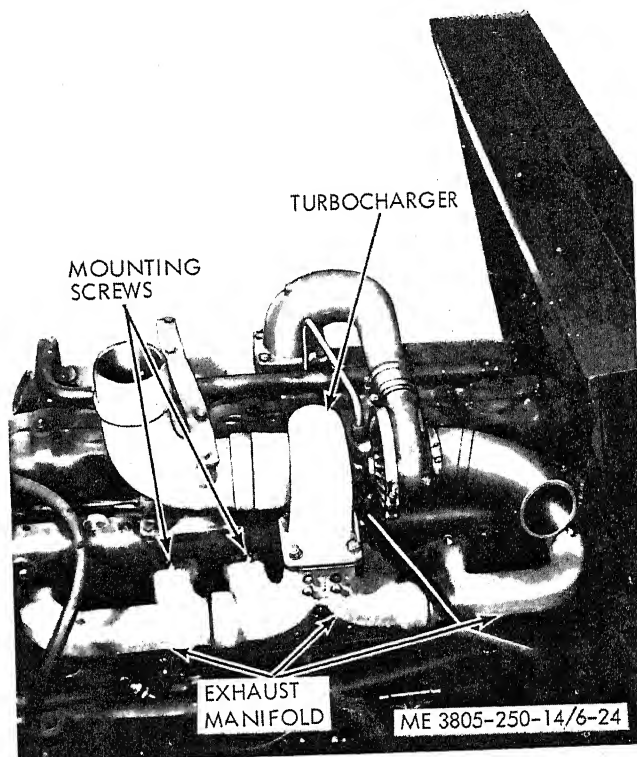

Figure 6-24. Exhaust manifold, removal and installation.
(5) Position the exhaust elbow and new gasket on the turbocharger and secure with four screws.
(6) Install the hood (para 4-51) and exhaust pipe (para 4-22).
(7) Clamp the exhaust pipe to the exhaust elbow.
(8) Connect the oil inlet line and oil outlet line.
(9) Connect the air compressor air inlet line to the air outlet elbow.
(10) Pull out the fuel shutoff control and crank the engine for 30 seconds to lubricate the turbocharger.
(11) Run the engine at low idle and check turbocharger operation.
(12) Install the engine side panels.
**a. Removal.** Refer to figure 6-24.
(1) Remove the turbocharger (para 6-7).
(2) Remove twelve screws and washers securing the three exhaust manifold sections to the engine. Discard the six mounting gaskets.
(3) Separate the three manifold sections. Remove the pipe plug from the center section.